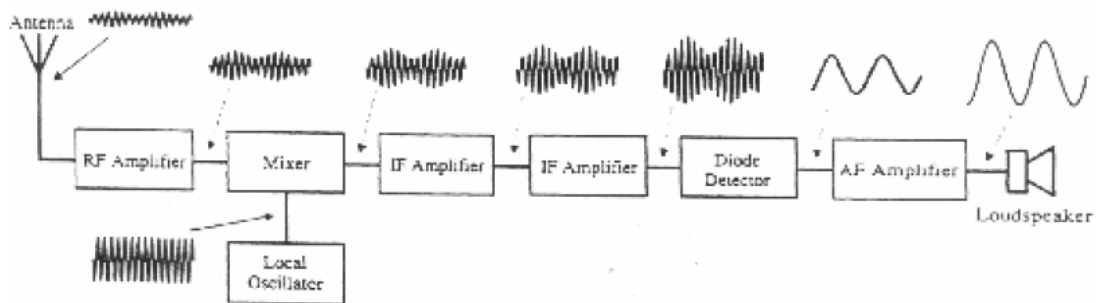

Figure 3: AM Reception
**AM Reception:** The 'em' wave from the transmitting antenna will travel to the receiving antenna carrying the information with it. The stages of AM reception are shown in Fig. 3. :